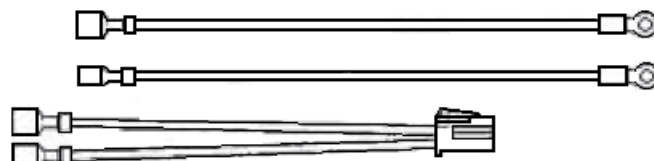

Figure 6
1. Some pumps will require the removal of a protective rubber boot over the terminals, cutting the wires near the existing connector or terminals, and stripping  $\frac{1}{4}$ " of insulation from the wires. Using the recommended tool shown in Fig. 6, crimp the butt splices to the bracket wires and to the new wiring assembly, making sure proper polarity is maintained. Snap the electrical connector into the pump.